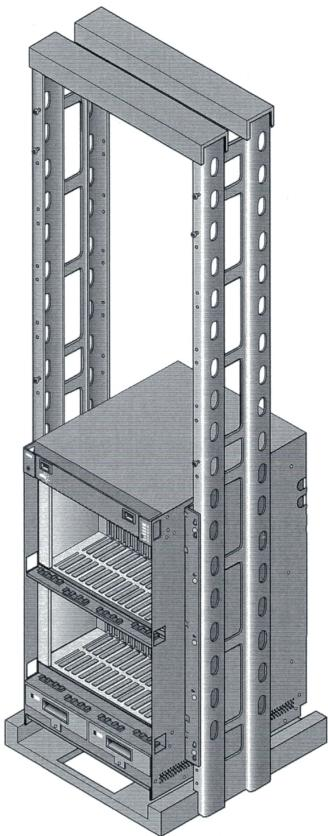

Figure 11 Completed Installation of the Shelf
4. Fully secure the shelf by threading and tightening the shelf-mounting screws in the remaining bracket holes. See Figure 11 for the completed installation of a shelf in the lower-shelf rack position.
4. Fully secure the shelf by threading and tightening the shelf mounting screws in the remaining bracket holes. See Figure 11 for the completed installation of the shelf in the upper-shelf rack position.